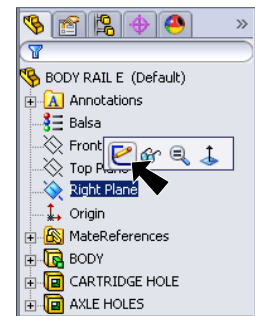

Fig. 7
Step 1. Click **Right Plane**  in the Feature Manager and click **Sketch**  from the Content toolbar, **Fig. 7**.
Step 2. Click **Spline**  (S) on the Sketch toolbar.